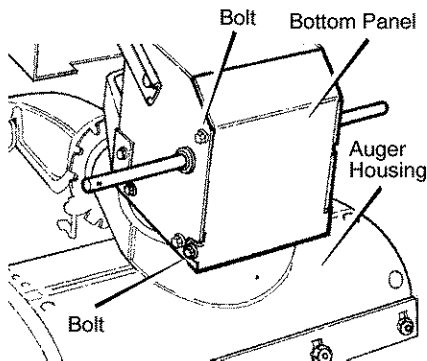

Figure 28
2. Stand the snow thrower up on the front end of the **auger housing** (see Figure 28).
4. Loosen the **bolts** on each side of the **bottom panel** (see Figure 28).
5. Install the **bottom panel** (see Figure 28).
2. Stand the snow thrower up on the front end of the **auger housing (4)**. (see Figure 28).